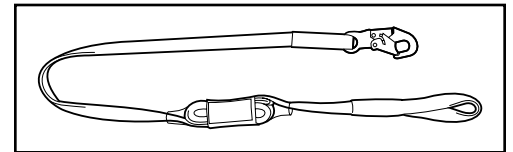

Figure 2: Loop Lanyard
1.7 Lanyards with Loop Attachment: With lanyards that have one snaphook and one loop, always connect the snaphook to the anchor point and the loop to the harness D-ring or D-ring loop (See figures 2 and 3).